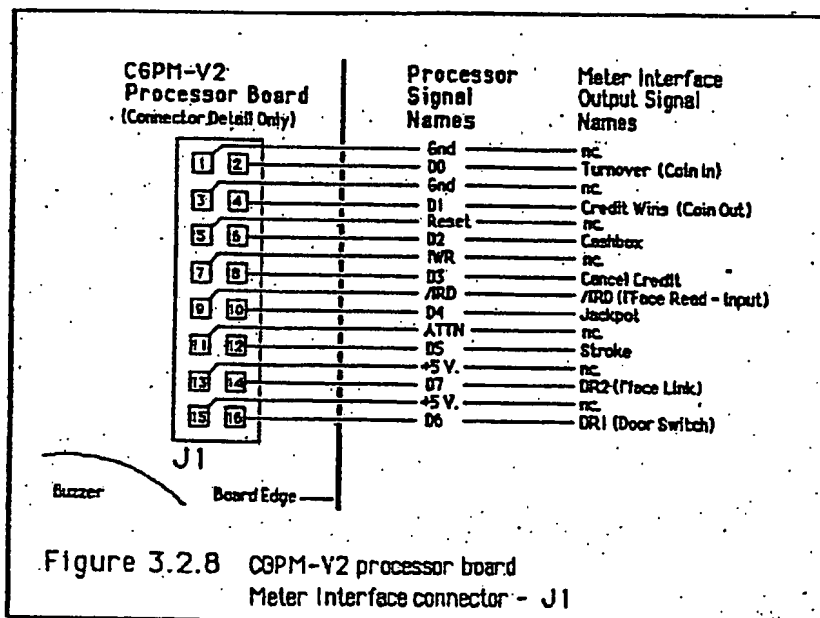

Figure 3.2.8 CGPM-V2 processor board
- Figure 3.2.8 Shows the CGPM-V2 processor board meter interface connector J1: pin assignments and orientation.
Figure 3.2.8 shows connector J1 pin assignments and orientation on the CGPM-V2 processor board.
The interface cable (Compute Game part No. IFO1) connects the poker machine meter interface module to the CGPM-V2 and consists of a 3 metre length (approx.) of 16 way ribbon cable with a 16 way dual row IDC, transition socket at each end. This cable mates with the unshrouded connector J1 on the processor board as stated previously, however it must be noted that this connector is not self polarising so particular attention must be paid to the orientation of the "interface cable" socket when this connection is made. Orientation is determined by the position of pin 1 on both parts. Pin 1 on the interface cable socket is marked by a triangular pointer (on the same side as the polarising lug) and should agree with its ribbon cable which has wire 1 marked with a red stripe. See Fig. 3.2.8 for the orientation of connector J1.